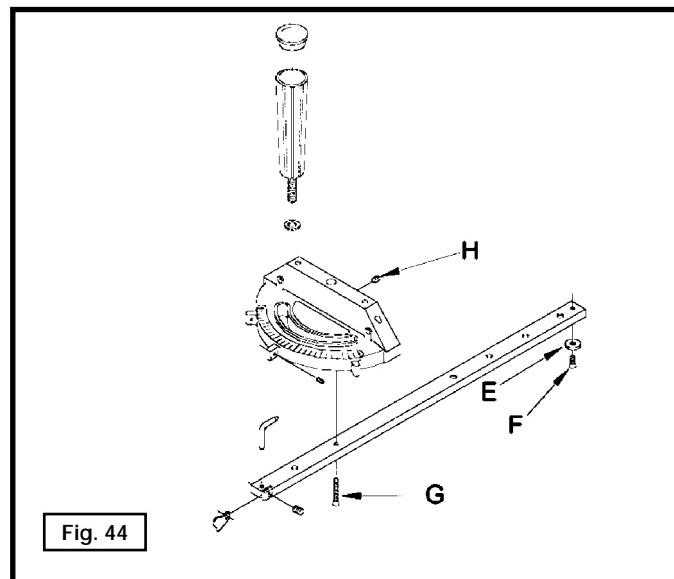

Fig. 44
The head of the miter gauge pivots on a special tapered screw (G) that fastens the head to the miter gauge bar. If the miter gauge head does not pivot freely, or pivots too freely, adjust it by loosening the set screw (H) Fig. 44, and turning the screw (G) in or out. Tighten the screw (H) after adjustment.
Your miter gauge is equipped with a plate (E) Fig. 44 that fits into the T-Slot groove in the table. This allows the miter gauge to be pulled away from the table without falling, allowing for a longer cut-off capacity in front of the blade.